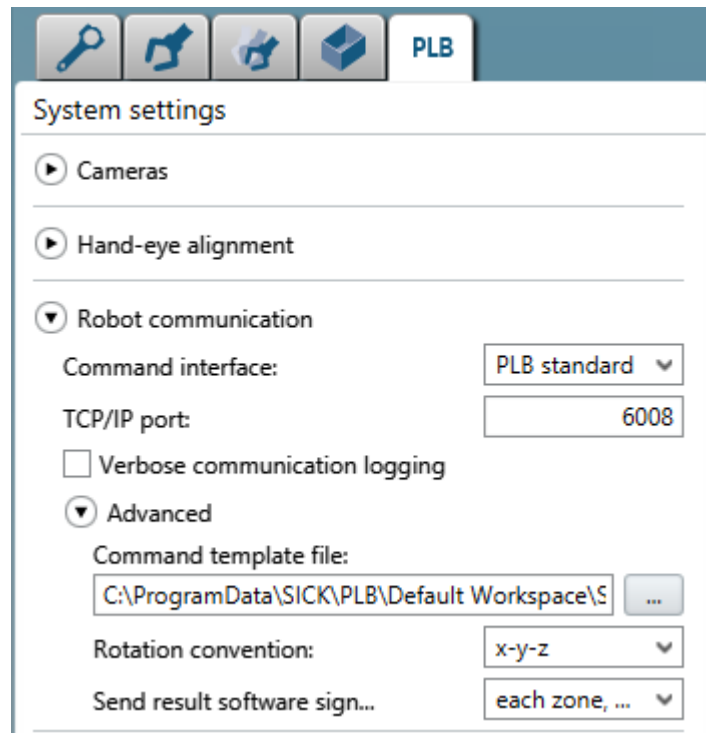

Figure 119: PLB Studio, selecting the template file
5. Click **System settings** , **Robot communication > Advanced**, and choose the template file (see figure 119, page 151).